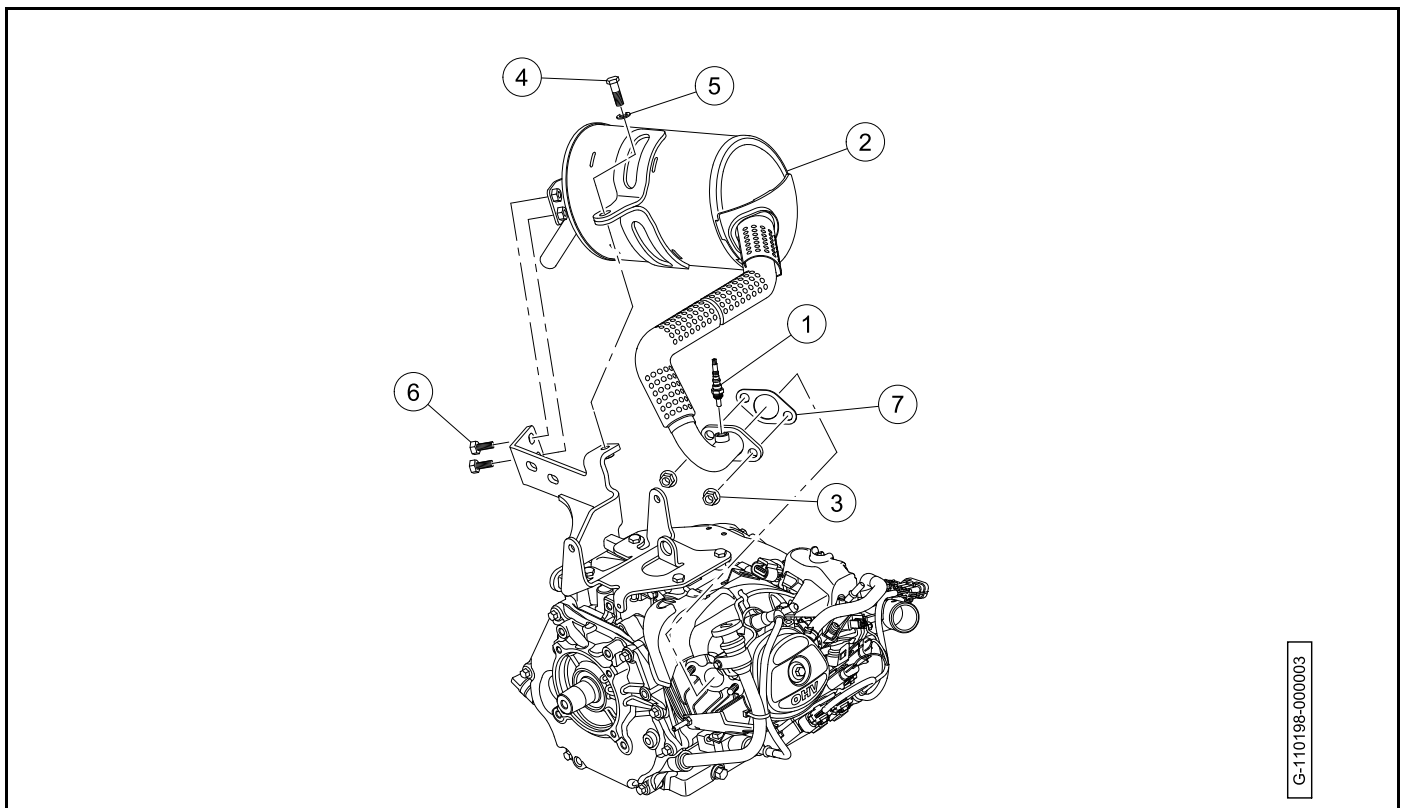

Figure 22-1 Muffler Removal
2. If necessary, remove the oxygen sensor (1) from the muffler (2) (**Figure 22-1, Page 22-1**). See Oxygen Sensor Removal.